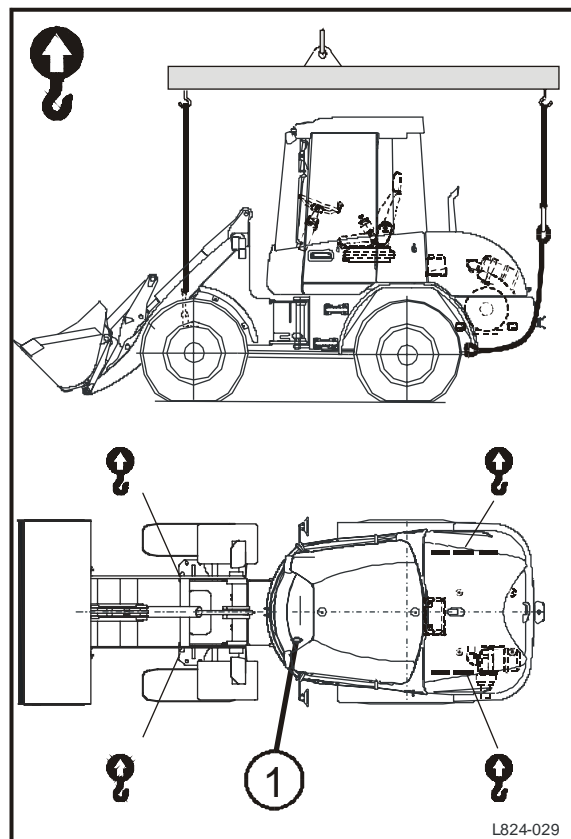

Fig. 29-Loading the machine using a crane
- Attach the loader to the hoisting appliance at the specified, marked points (Fig. 29) in the correct manner.